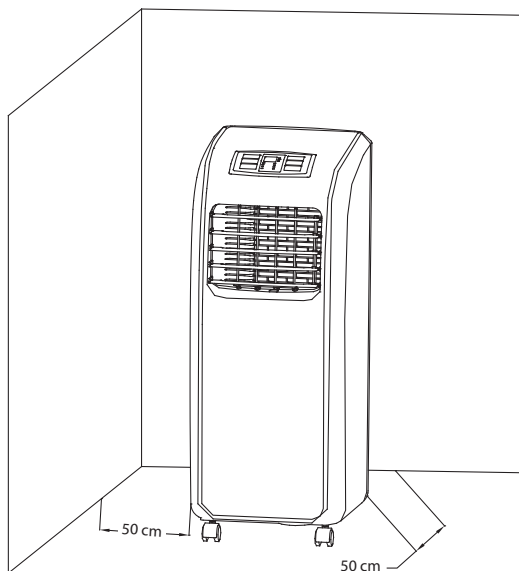

Fig. 7
1. Move the device with the installed hot air exhaust tube kit in front of the window while maintaining a distance of **at least 50 cm** from the walls or other objects. (Fig. 7).